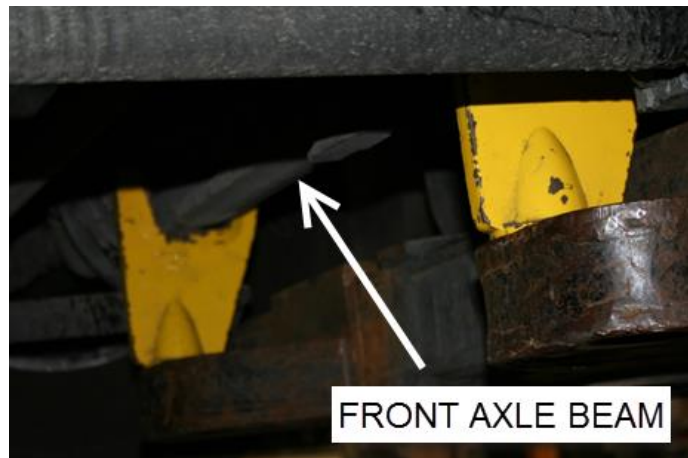

FIGURE 45
4. Lift the tow bar until the axle forks grab the front axle I-beam at the hoisting points (Figure 45).